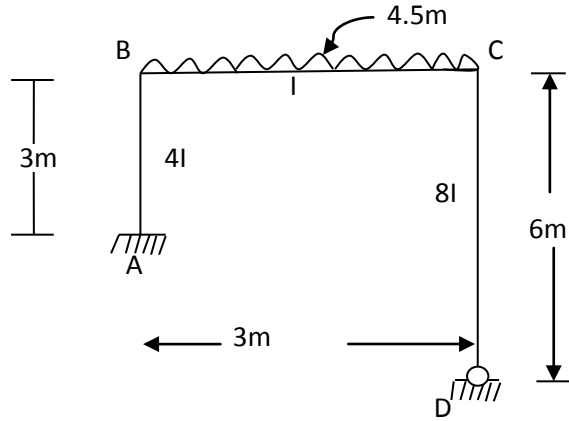

Fig.5
- Q.7 Analyze the frame shown in fig.5 by moment distribution method and Draw BMD. 15